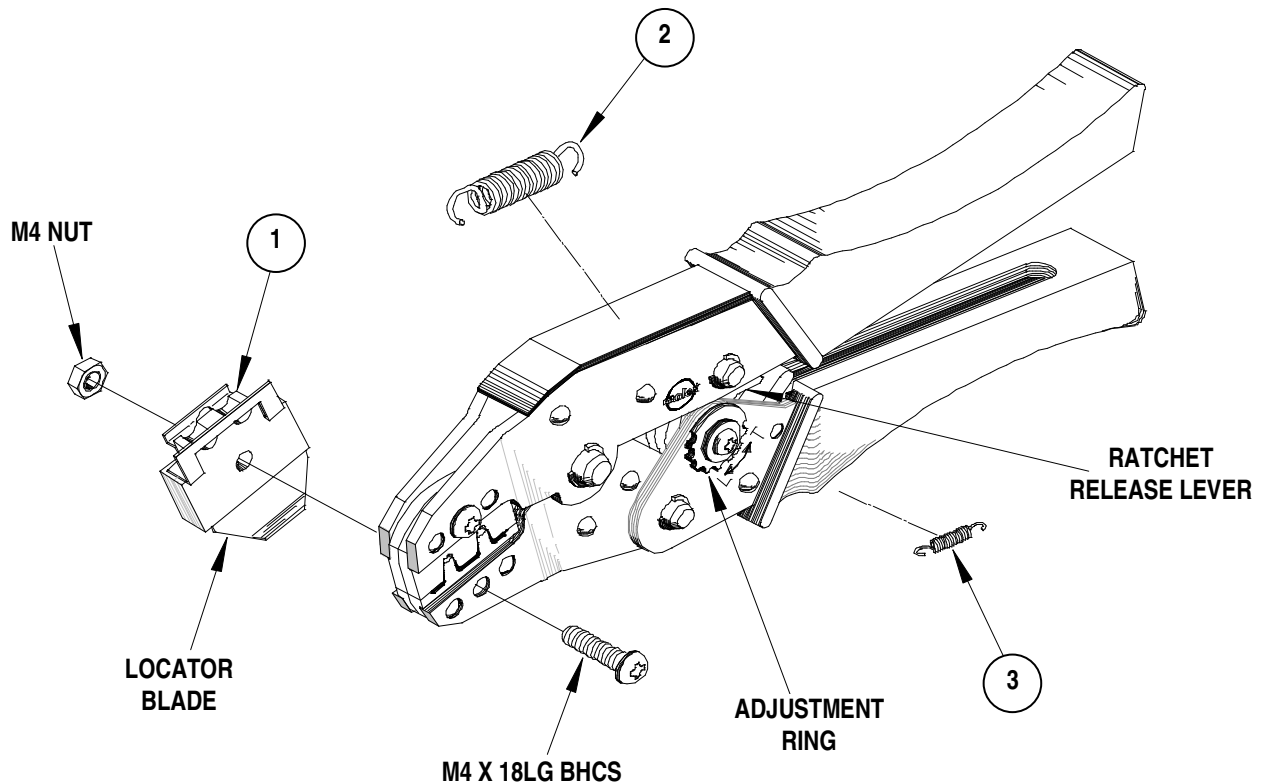

Figure 4
4. Close the tool until the ratchet releases. See Figure 4.
Should this tool ever become stuck or jammed in a partially closed position, **Do Not force the handles open or closed.** The tool will open easily by lifting the ratchet release lever. See Figure 4.
How to Adjust Tool Crimp Force (See Figure 4)